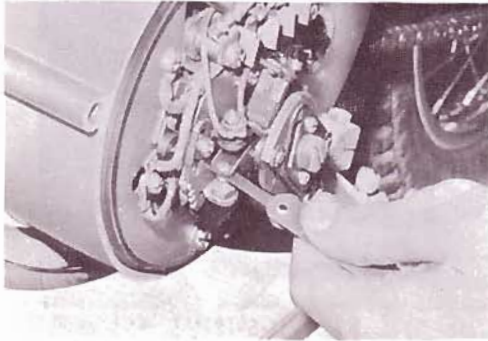

Fig. VII-5-13
- a) Set the point gap at 0.30-0.40 mm (0.012~0.014") (Fig. VII-5-13)